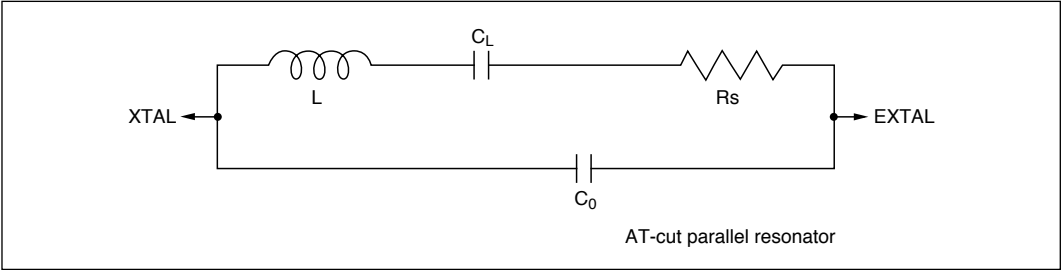

Figure 8-3 Crystal Resonator Equivalent Circuit
(2) Crystal Resonator: Figure 8-3 shows an equivalent circuit of the crystal resonator. The crystal resonator should have the characteristics listed in table 8-2.